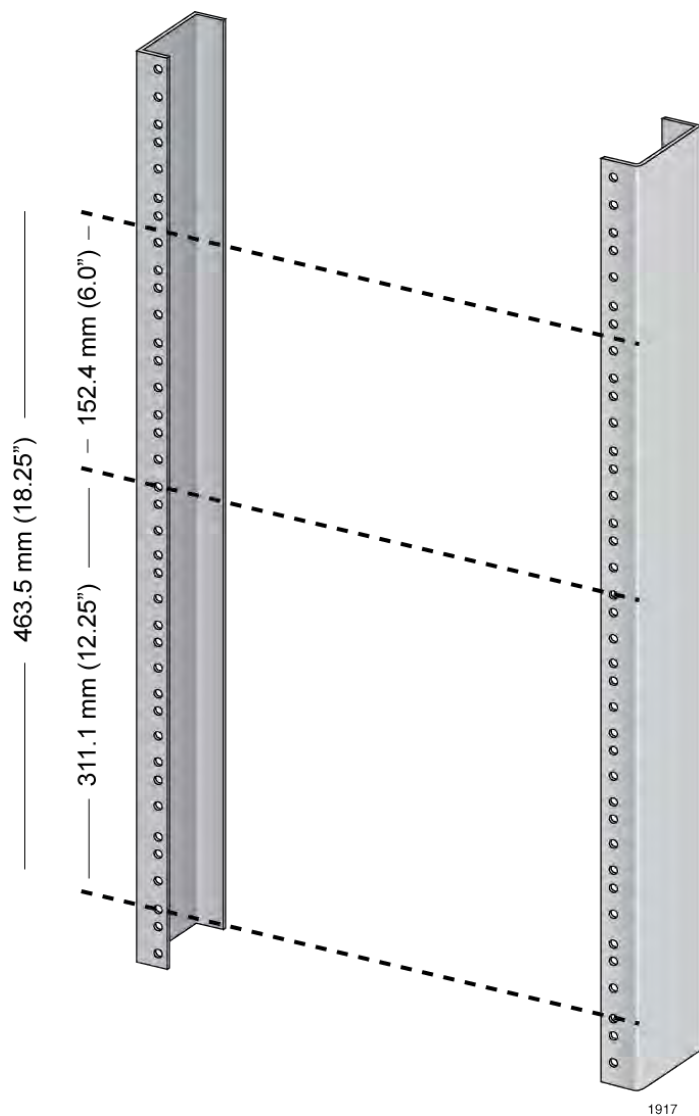

Figure 38. Reserving Vertical Rack Space
1. Reserve 311.1 mm (12.25") of vertical rack space for the installation of the AT-SBx8112 Chassis, as shown in Figure 38 on page 112.